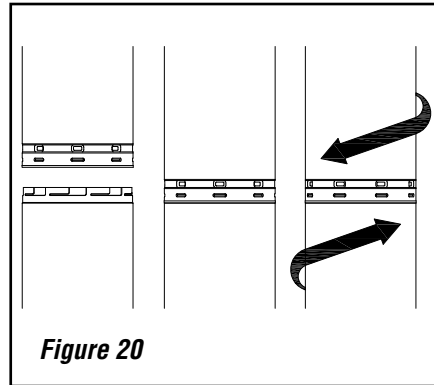

Figure 20
8" DV Lock (8DVL) direct-vent system components are unitized concentric pipe components featuring positive twist lock connections (see **Figure 20**).
Push the pipe sections completely together, then twist lock one section clockwise approximately one-quarter turn until the two sections are fully locked (see **Figure 20**). Indentations on the female end of black painted pipe and fittings will not be visible unless by examining the inside of the female ends.
Push the vent component against the previous section until it fully engages, then twist the component clockwise, running the dimples down and along the incline channels until they seat at the end of the channels. **This seating position is indicated by the alignment of the arrow and dimple as shown in Figure 20.**
At any transition to or from a horizontal/inclined run, install the 8DVLE45 and 8DVLE90 elbows in the same manner as the straight vent sections. Fully engage the inner and outer unitized pipes at the bottom of the elbow. Rotate the elbow in the desired direction. **NOTE:** Three (3) holes are provided at the bottom of the elbows. Secure the elbow in place with a minimum of two (2) self tapping screws. The top of the elbow will connect to straight lengths of 8" DV Lock pipe by twist-locking the pieces together. (see *Figures 20 and 22*).
8" DV Lock pipe applications are shown in the illustrations. **8" DV Lock** direct-vent system components are unitized concentric pipe components featuring positive twist-lock connection (see **Figure 20 on Page 21**). The appliances covered in this document are fitted with collars having locking inclined channels. The dimpled end of the vent components fit over the appliance collar to create the positive twist-lock connection.